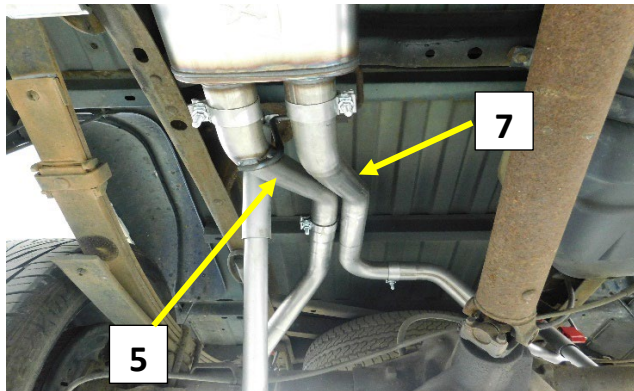

Figure. 6
3. Insert the Right Muffler outlet pipe (5) into the muffler Fig.6.
6. Install the left muffler outlet pipe (7) into the muffler. Rotate the pipe up to within ¼" of the right muffler outlet pipe and tighten the clamp. Fig.6